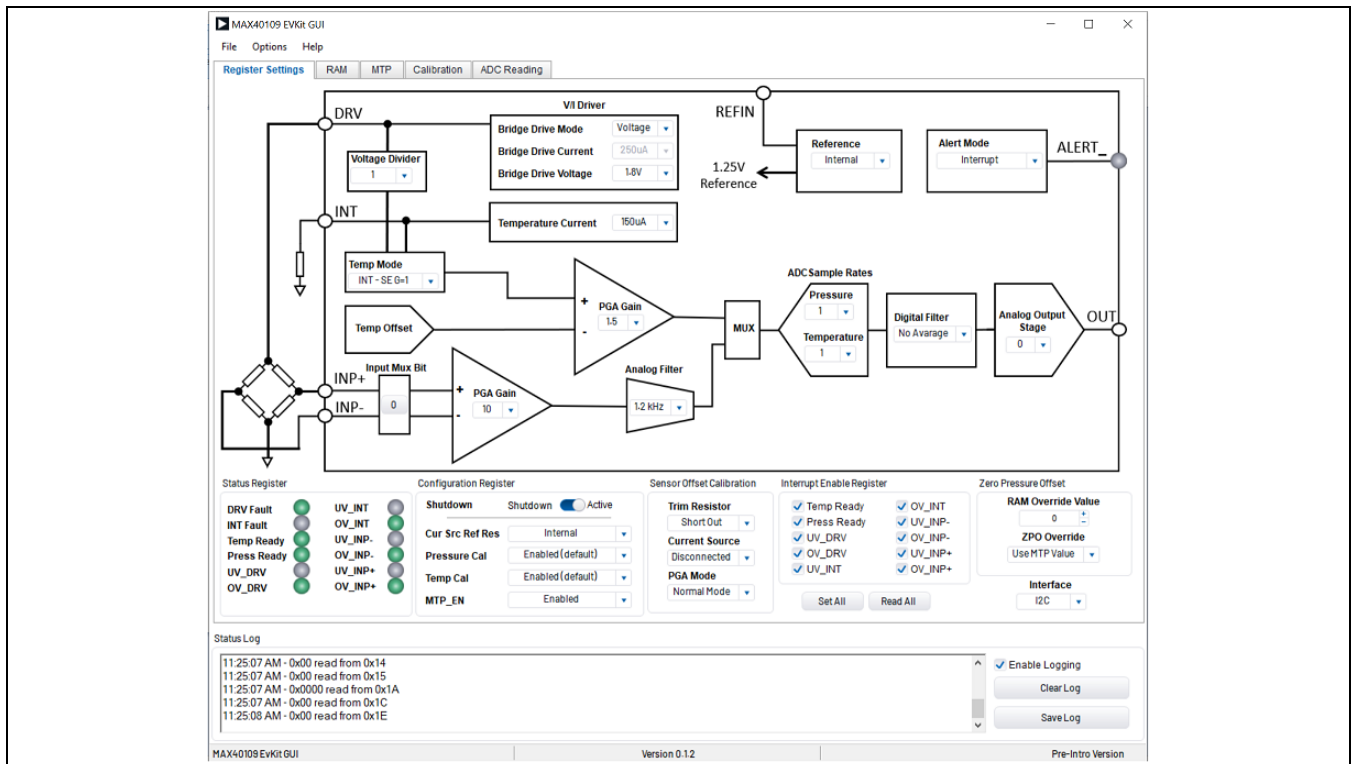

Figure 1. MAX40109 EV System GUI Main Window (Register Setting Tab)
- Start the MAX40109 GUI as shown in Figure 1.
The **Register Settings** tab (Figure 1) displays the control of the frequently used RAM registers. In addition, the user can select the digital interface from I2C, SPI, 1-Wire, and VDDHV. Once the interface is selected, a pop-up window appears to ensure the user places the appropriate jumper settings on the EV kit. The SPI and VDDHV selections should not be used for now and are intended for future use. Once the desired settings are configured, the user needs to click the **Set All** button.